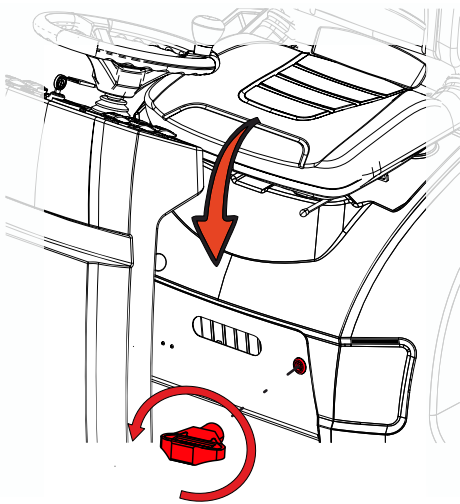

Fig. 12
- The front panel is locked with a front panel wrench on the flap - turn anticlockwise - (Fig. 12)